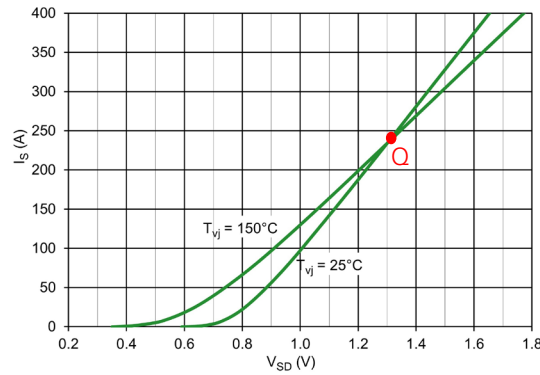

Figure 28. Typical Forward Characteristics of a Reverse Diode
Typical Forward Characteristics of a Reverse Diode plotted against various temperatures are presented in Figure 28. This curve aids in comprehending the diode's conduction behavior and its forward voltage drop characteristics. It clearly demonstrates the negative temperature coefficient of diode forward voltage V_{SD} in the low-current region. As a result, it is anticipated that the diode forward voltage will decrease as the temperature increases. In the high-current region that is above the cross-over point (Q), the diode forward voltage will increase as the temperature increases.